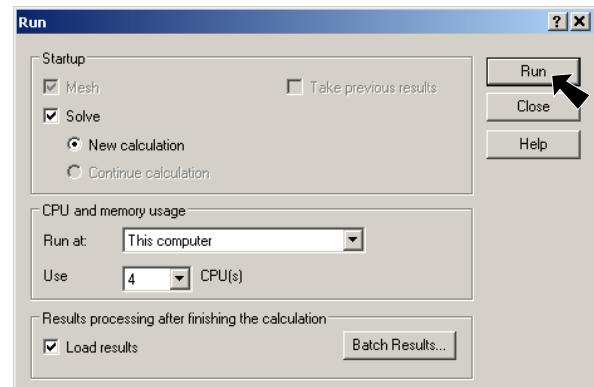

**Fig. 13**
Step 2. Click the **Flow Simulation** tab  in the Feature Manager, **Fig. 13**.
Step 4. Drag the edge of the Feature Manager to the right to expand, **Fig. 13**.
scroll down the Parameters to **Force (Y)**, **Fig. 13**